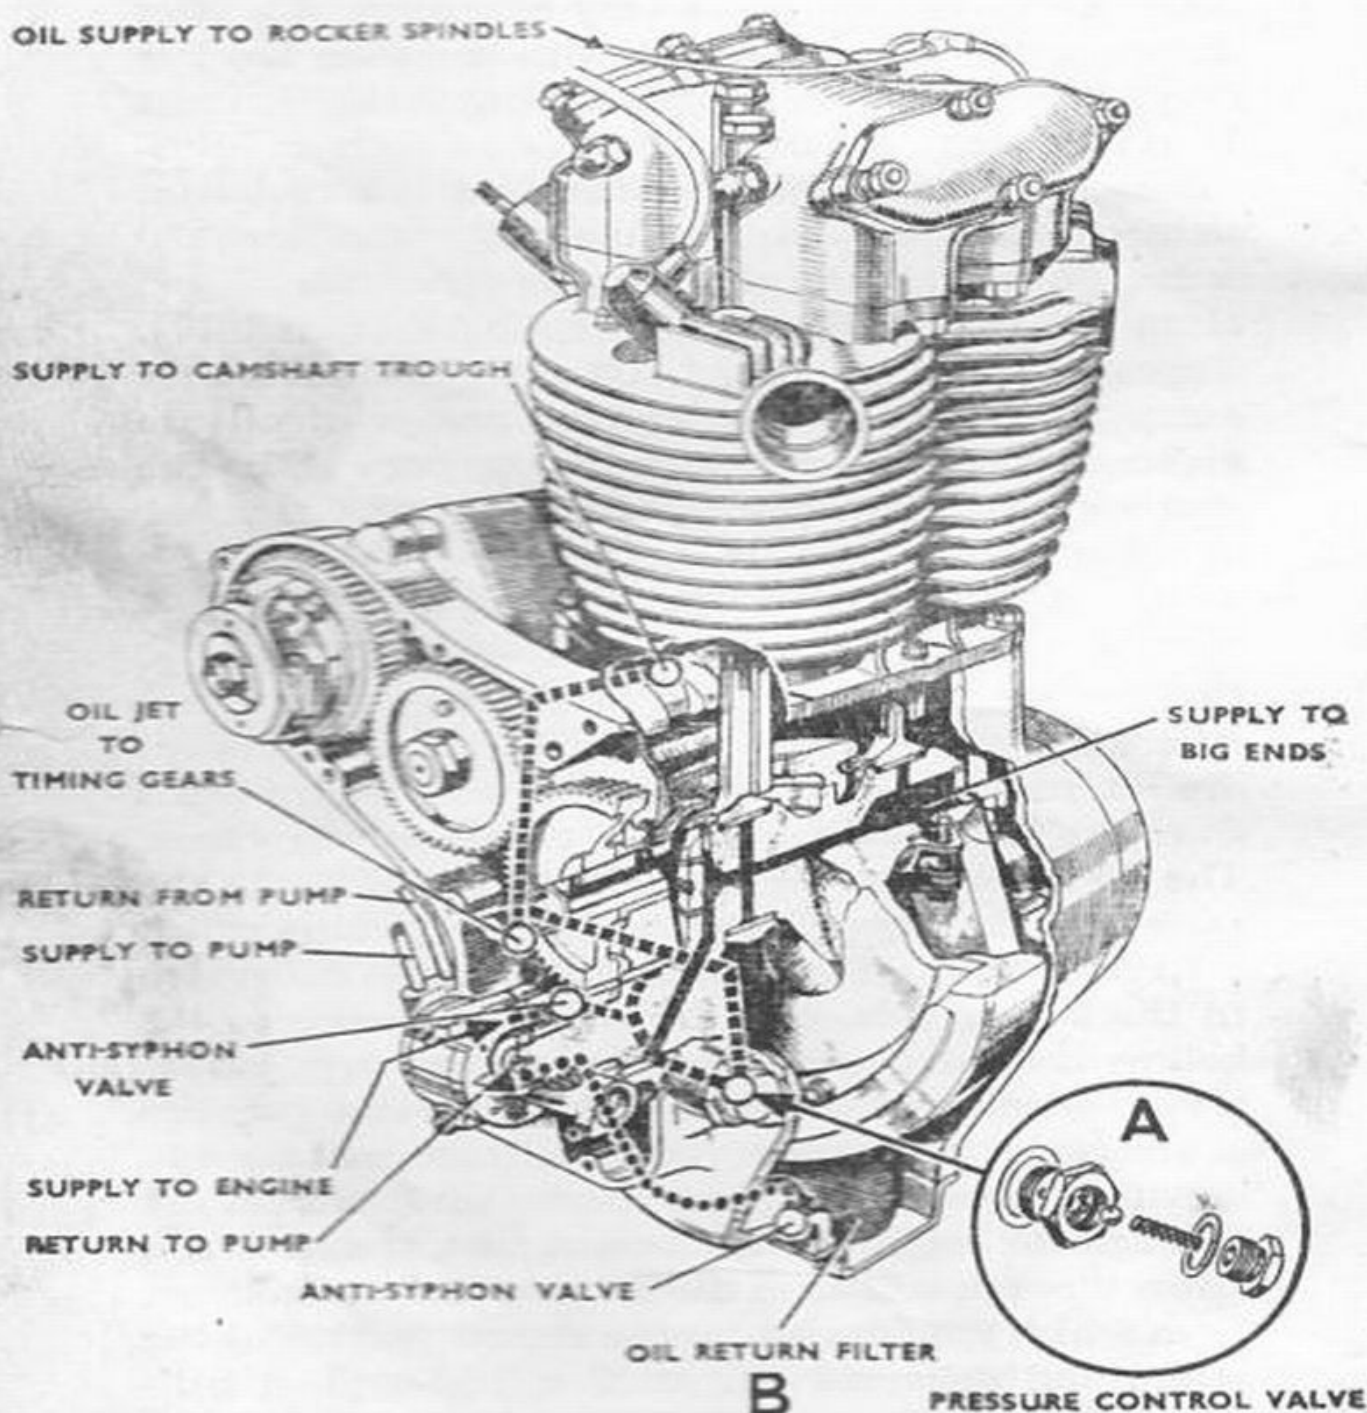

Fig. 2. Engine Lubrication.
The engine lubrication system (see Fig. 2) is of the dry sump type operated by a double gear pump, situated in the bottom of the timing case. All oilways are internal except for the supply and return pipes from the tank and the oil feed to the valve rockers. The oil flows from the tank—through a filter in the tank—to the supply portion of the pump, which delivers it past an automatic anti-syphon ball-valve to the timing side main bearing and thence to the hollow crankshaft and the big-end bearings, whilst a further internal oilway supplies oil via a pressure control valve to the timing gears and camshaft trough.
side of the pump and the big-end bearings. This is pre-set to control the pressure in the supply system, and it should be examined periodically—say every 1,000 miles—to ensure that it is operating freely and not impeded by the presence of even tiny particles of foreign matter. The construction of this valve is shewn in the exploded view A, Fig. 2, and if it is dismantled, the parts should be thoroughly rinsed in petrol before reassembly.
The crankcase filter *B* (Fig. 2), can be withdrawn after removing the cover plate.
Remove and examine for cleanliness, as described on page 14, and illustrated at *A* (Fig. 2).
2. The crankcase filter *B*. (Fig 2), which can be withdrawn after removing the cover plate.